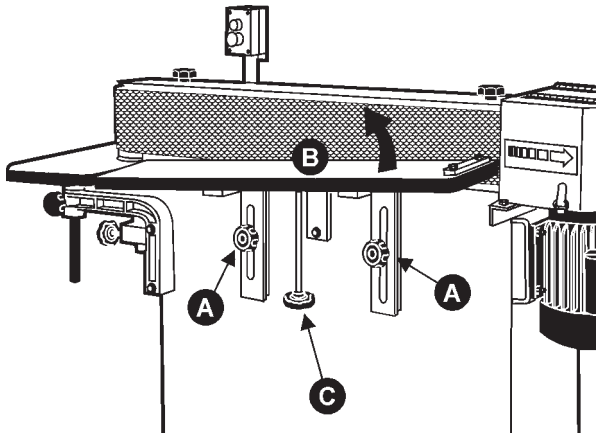

FIGURE 6
1. Loosen the two fixed knobs (A), Figure 6.
2. Raise the front work table (B) by rotating the adjustment knob (C) and incline it to the degree desired.
3. Re-tighten the fixed knobs (A).